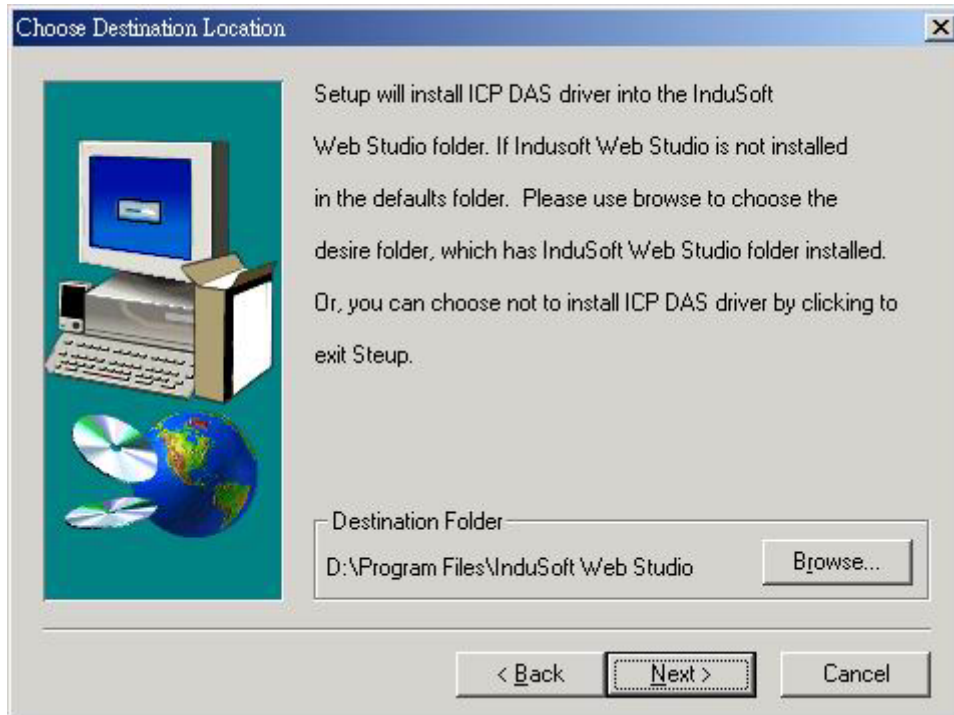

Fig 1-3. Select the folder that you want to install the software
Step 6: Choose the InduSoft Web Studio path installed in the system. The default path is “C:\Program Files\InduSoft Web Studio”, Refer to Fig 1-3. (If InduSoft Web Studio does not install in the default path, users must use “Browser” button to choose the correct path. Otherwise, DCON driver would not work normally in InduSoft Web Studio.)